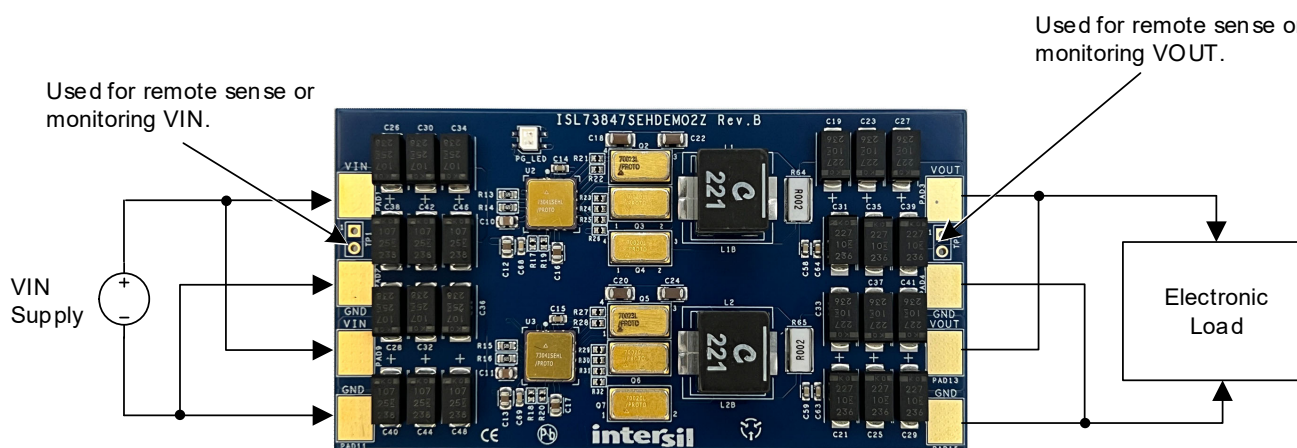

Figure 2. ISL73847SEHDEMO2Z Board Setup
1. Apply a 4.5V to 15V voltage to V_{IN} connectors, as shown in Figure 2. To use 4w sense lines from a power supply or a voltmeter to monitor the input voltage, solder a jumper to TP1.
2. If required, a resistor or electronic load can be connected to the VOUT connectors, as shown in Figure 2. To use 4w sense lines from an electronic load, solder a jumper to TP2.